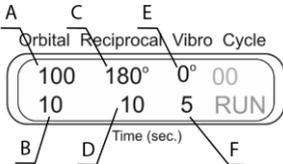
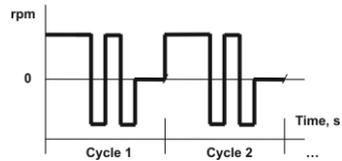

Figure 8
Figure 9
6.9.3 **3D orbital + 3D reciprocal + pause** (figure 8). Set the speed (**A**, 1–100 rpm) and time (**B**, 1–250 s) of 3D orbital motion. Set the turning angle (**C**, 0–360°) and time (**D**, 1–250 s) for 3D reciprocal motion. Set the angle of (**E**) 3D vibro type motion to zero. Set the time for 3D vibro motion (**F**, 1–5 s), this is the duration of the pause. Figure 9 shows 3D orbital and 3D reciprocal motions and pause run one after another in cycles.